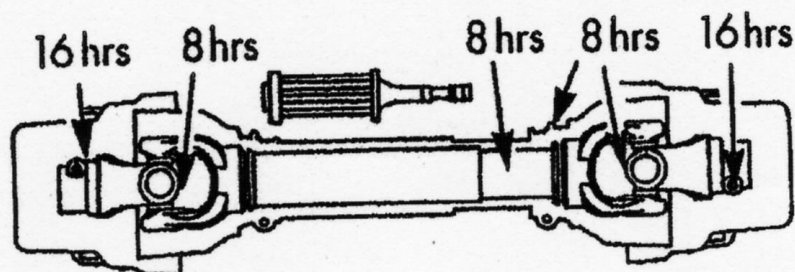

Fig. 2 - PTO drive and grease points
- Dismantle and clean PTO sliding surfaces and re-grease. Grease universal joints (Fig 2)
- Grease PTO inner tube and push pins (Fig 2)